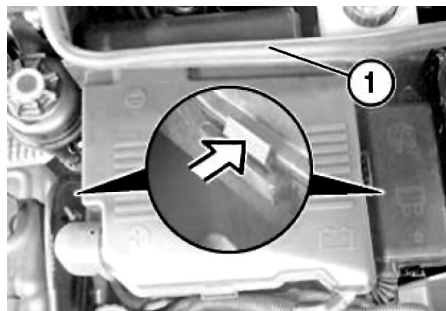

Fig. 1 Battery cover removal
2. Remove rubber seal (1), **Fig. 1**.
3. Press clips in direction of arrow and remove battery cover, **Fig. 1**.
9. Install rubber seal (1), **Fig. 1**.